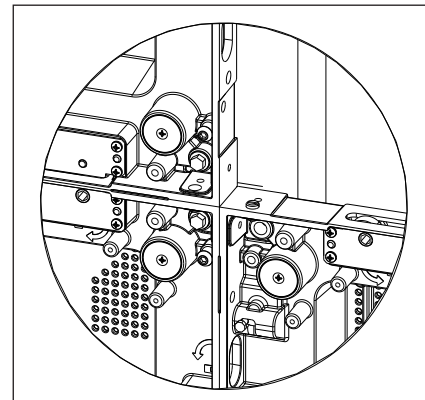

Figure 16: Align Panel Faces
- Ensure the front edges of the panels align completely. Refer to **Figure 16**.